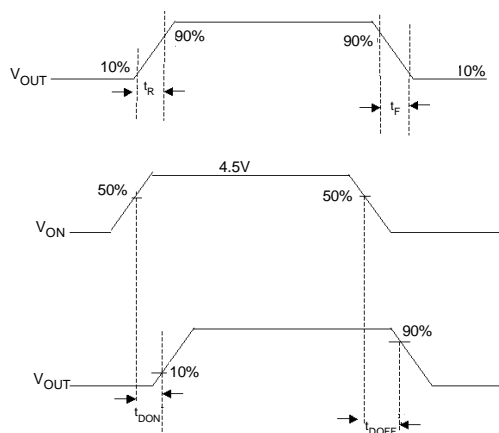

Figure 27. Timing Diagram
4. $t_{DON}/t_{DOFF}/t_R/t_F$ are defined in Figure 27.